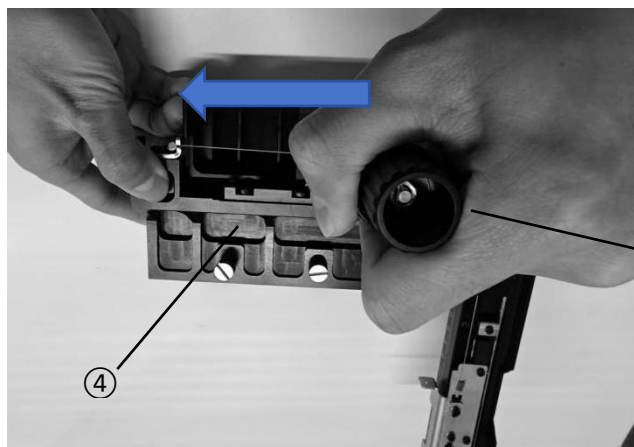
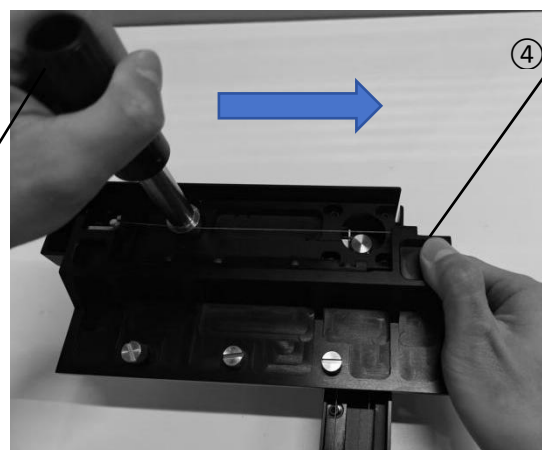

Fig.3
Fig.4
(2) Y-Axis Travel Calibration
As shown, fix Y-axis adjustment knob ③ with one hand. With the other hand, pull the Y-axis movement scale at ④ leftward (Fig.3 blue arrow) to the extreme left. Similarly, fix knob ③ and pull the scale at ④ rightward (Fig.4 blue arrow) to the extreme right.